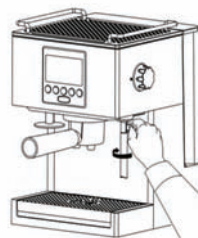

Fig. 9
CAUTION! Moving the steam/hot water nozzle (11) is possible only by means of a special attachment (Fig. 9). The steam/hot water nozzle (11) is extremely hot.